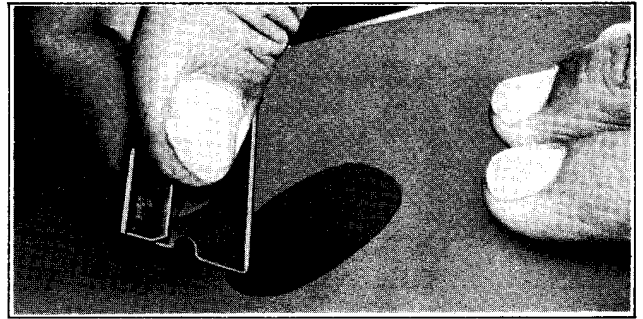

Figure 2-52. Spreading Gel Coat Evenly
8. Spread the gel coat level with the surrounding area and allow to cure (30 - 60 minutes). See Figure 2-52. Gel coat can be covered with cellophane, if desired, to aid in spreading evenly. Remove cellophane after gel coat has cured.
4. Fill the scratch or hole slightly above the surrounding undamaged area, working the Filler coat into the damaged area with a putty knife. Be careful to puncture and eliminate any air bubbles which may occur. Patch can be covered with cellophane to aid in spreading evenly (see Figure 2-52). Allow to cure completely before removing cellophane.